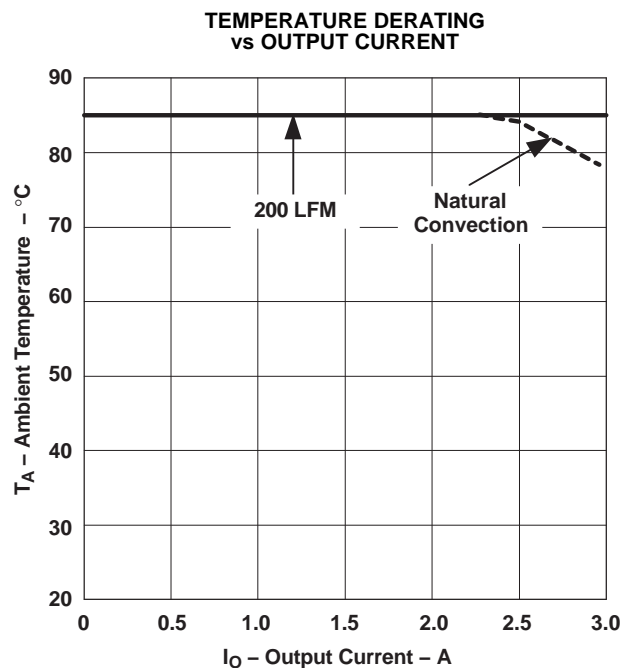

Figure 4.
- (2) The temperature derating curves represent operating conditions at which internal components are at or below manufacturer's maximum rated operating temperature. Derating limits apply to modules soldered directly to a 100-mm  $\times$  100-mm, double-sided PCB with 2 oz. copper. For surface mount packages, multiple vias (plated through holes) are required to add thermal paths around the power pins. Please refer to the mechanical specification for more information. Applies to Figure 4.